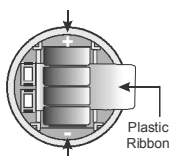

Figure 11: Battery compartment
2. Remove old batteries by pulling plastic ribbon. Replace with fresh ones. Note polarity as shown in figure 11.